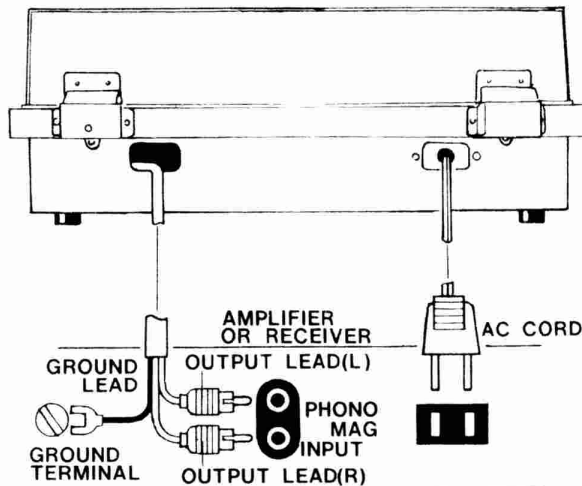

Fig. 13
- Connect the lead marked "L" to the left channel input jack and the lead marked "R" to the right channel jack. The third wire is a ground lead with a split lug on its end. Connect the split lug to the ground terminal on the amplifier (Fig.13).